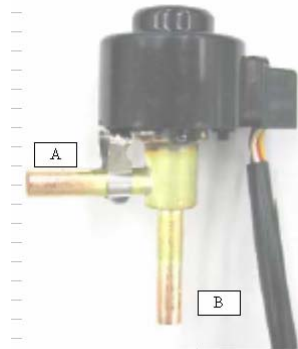

Figure 1
4. The connecting pipe between the indoor and outdoor units as well as the drain pipe shall be as short as possible. (See Figure 1)
- The round duct needs to add a transition duct to connect with the air-sending duct of indoor unit, then connect with respective separator. As Fig. 1 shown, all the fan speed of any of the separator's air outlet shall be adjusted approximately the same to meet the requirement for the room air conditioner.